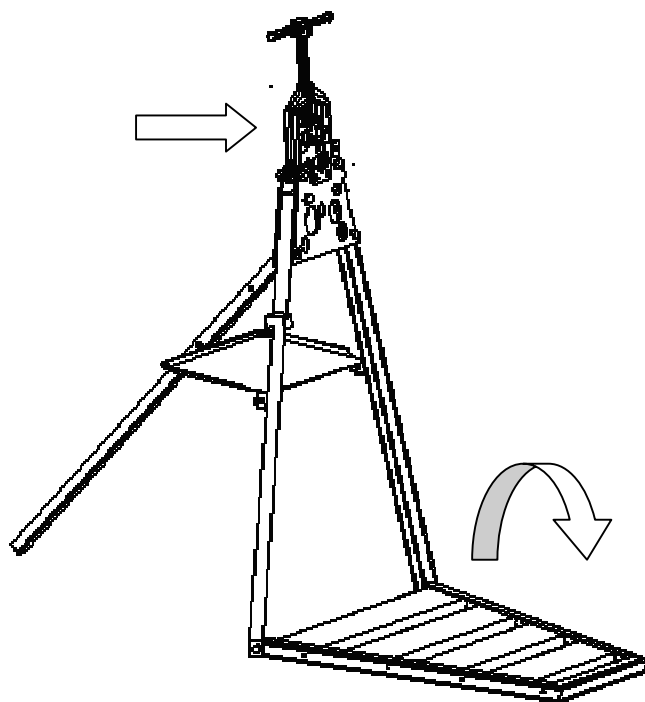

Fig. 4
4. Release the pedestal safety catch (8) and open up the pedestal (4) (see Fig. 4).
5. Screw on the head (1) behind the tripod screws (10) and snap in the head catch (7) (see Fig. 4).